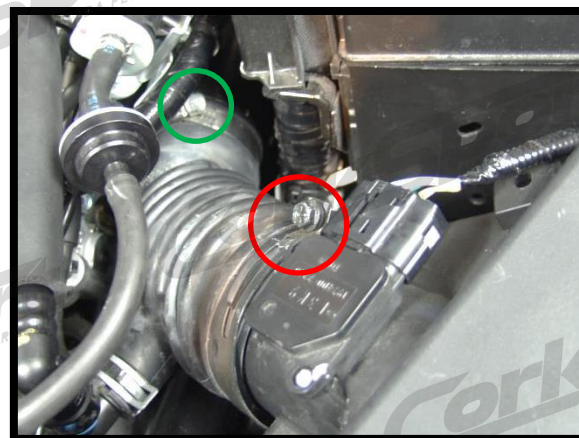

Figure 2b
- b) Loosen the two (2) 10mm hose clamps on the factory rubber intake elbow (Figure 2b).
- k) **Tighten the two (2) 10mm hose clamps on the factory rubber intake elbow** (red circle and green circle in Figure 2b).
- b) Loosen the two (2) 10mm hose clamps on the factory rubber intake elbow (red circle and green circle in Figure 2b).
- r) **Tighten the two (2) 10mm hose clamps on the factory rubber intake elbow** (red circle and green circle in Figure 2b).